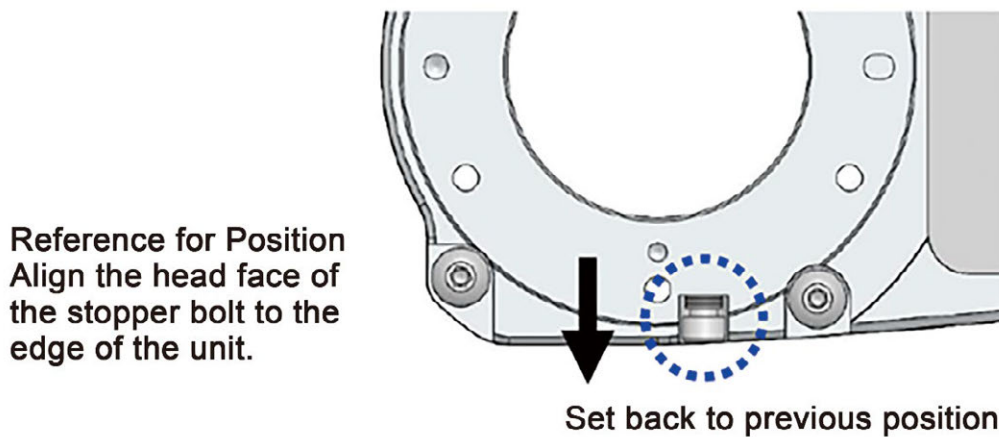

Figure 8.3-13 R-axis Stopper Bolt Removed
- 6) Have the emergency stop conducted and take the stopper bolt off (Figure 8.3-13). With the stopper bolt taken off, release the emergency stop and click in the confirmation window.